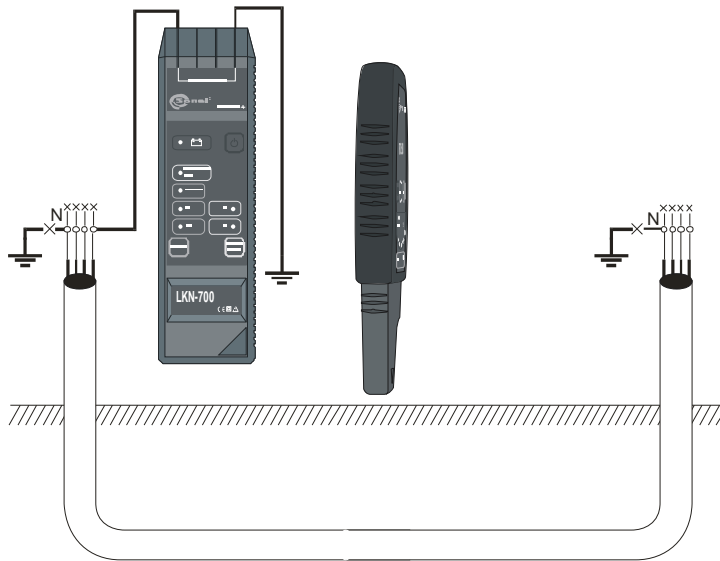

Fig.16 Locating unused underground cables in an open circuit
- Disconnect the phase wire at the power distribution board (Fig.16).